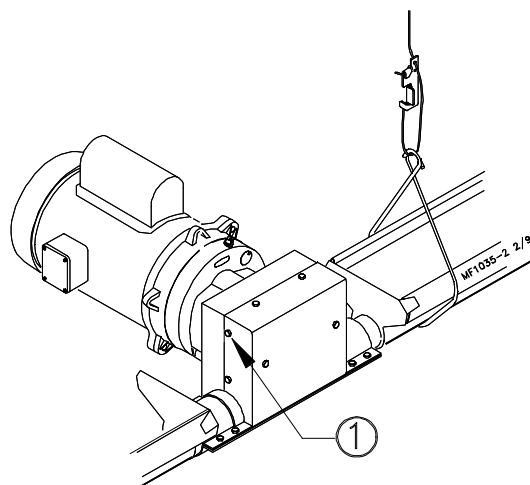

Figure 31. Litter Shield Installation
1. Remove the screw, shown in Figure 31, from each side of the Driver Assembly.